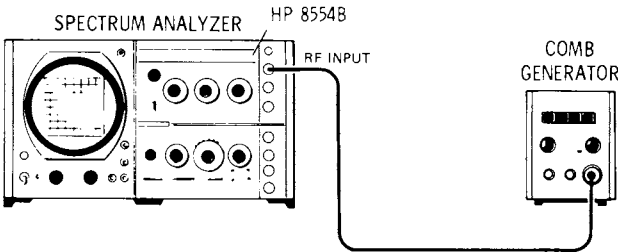

Figure 4-13. Stability Test for Local Oscillator
1. Connect the test setup as shown in Figure 4-13 and make the following control settings: